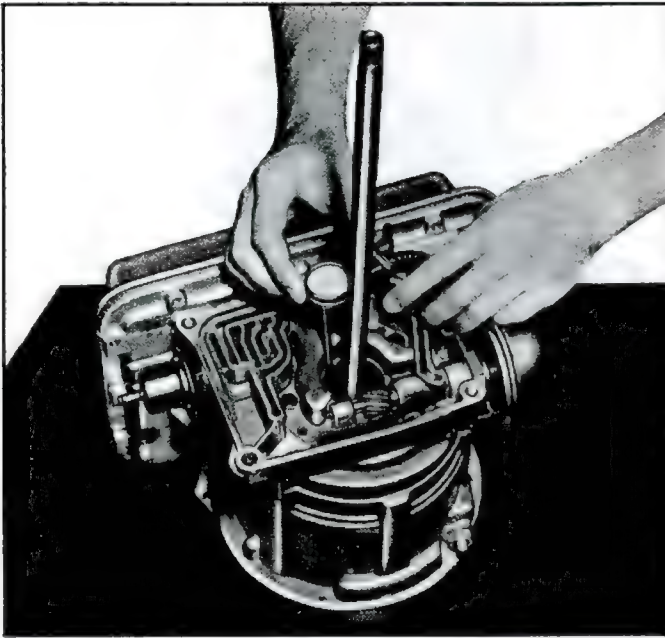

Fig. 8—Zeroing Dial Indicator on J-8364 on Output Shaft
- Without gasket, place support on rear pump cavity surface of the transmission case with transmission on front end as illustrated (fig. 8) so that dial indicator tip rests on planet carrier hub. Adjust indicator on J-8364 as required to permit maximum indicator travel and set indicator dial to zero.